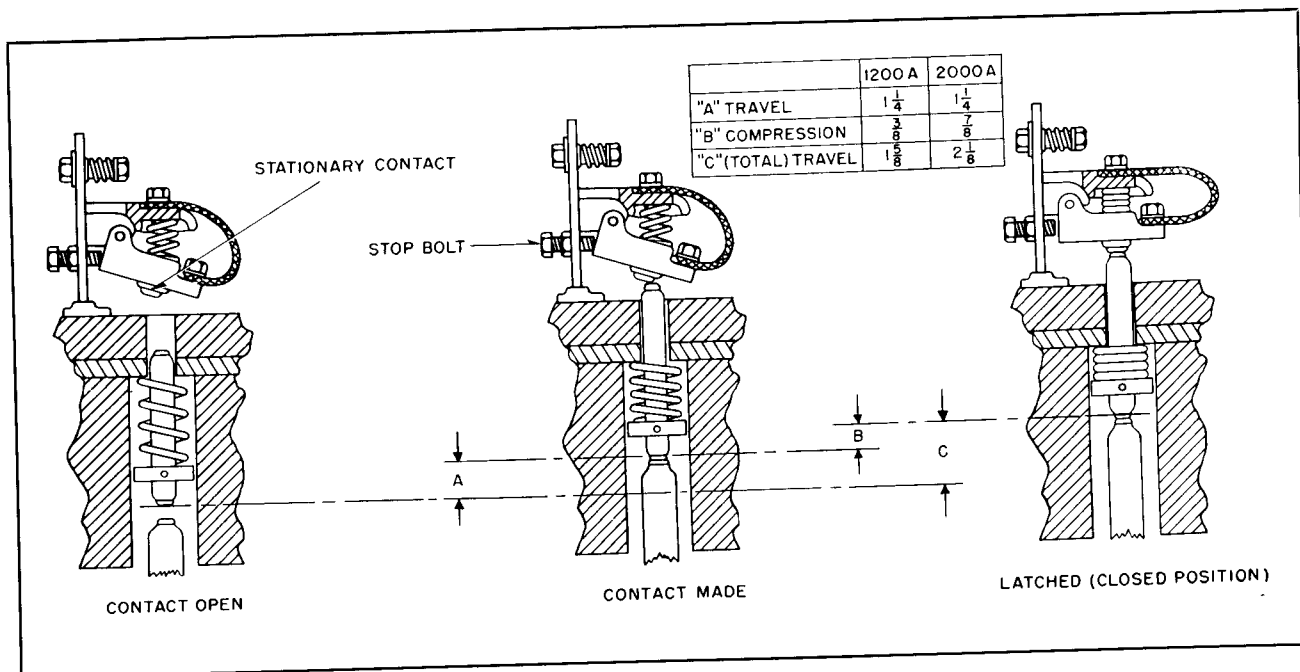

FIG. 7. Intermediate Contact Travel from Open to Fully Closed Position
2. Mark the position of the moving contact, replace the fibre screw, and continue to close the breaker slowly by hand. Stop the closing movement after the moving contact has moved "A" travel per Fig. 7.
4. The moving contact should move "B" travel (see Fig. 7) from the point where the intermediate contact touches the stationary contact to the latched position. This gives the proper compression for the stationary contacts, as previously explained.